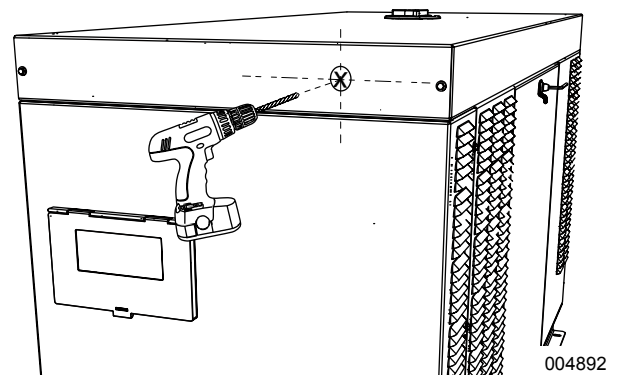

Figure 4 - Prepare Roof Panel
- See **Figure 4**. Measure 5 in. (12.7 cm) in from the right edge of roof panel, centered vertically. Mark an X at this location. This will be the center point for the switch mounting hole.